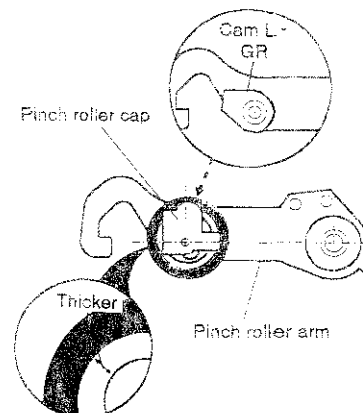

Fig. 3-10-4
- ① Move the GR-lever roller in the direction of arrow.
- ② Make sure that the cam L-GR is attached on the pinch roller arm. Attach the pinch roller to the pinch roller arm shaft with orientation as shown in Fig. 3-10-4.
- ③ Attach the pinch roller cap to the pinch roller arm shaft with the orientation as shown in Fig. 3-10-4.